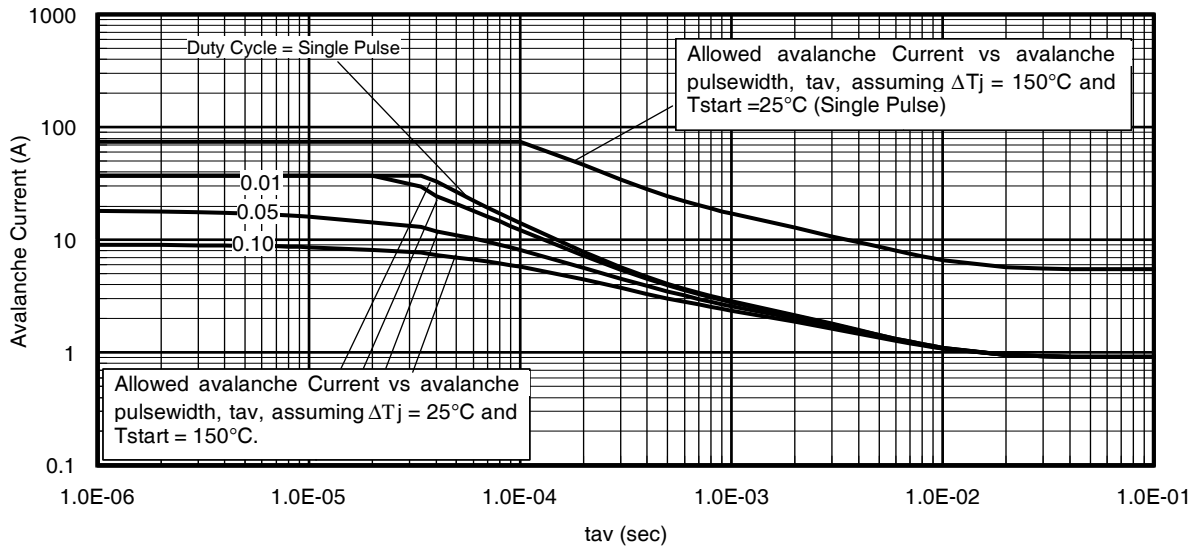

Fig 14. Typical Avalanche Current Vs. Pulsewidth
Notes on Repetitive Avalanche Curves , Figures 14, 15:
7. ΔT = Allowable rise in junction temperature, not to exceed T_{Jmax} (assumed as 25°C in Figure 14, 15).